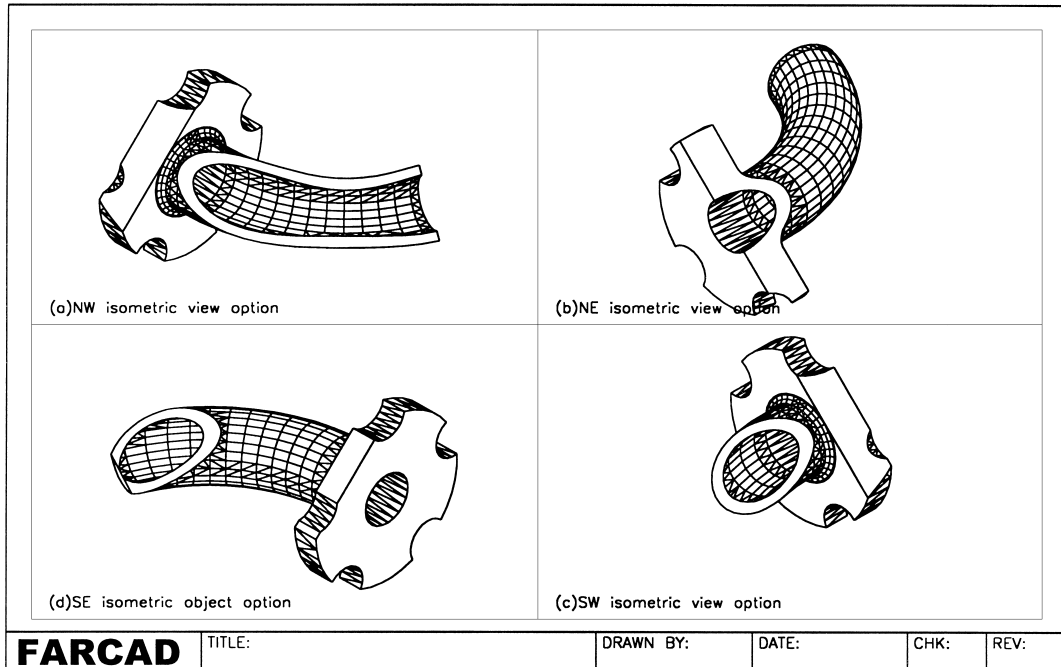

Figure 38.3 Slice example 3 – FLPIP model with view and object options.
- 3 Refer to Fig. 38.3 and set the following 3D Views: